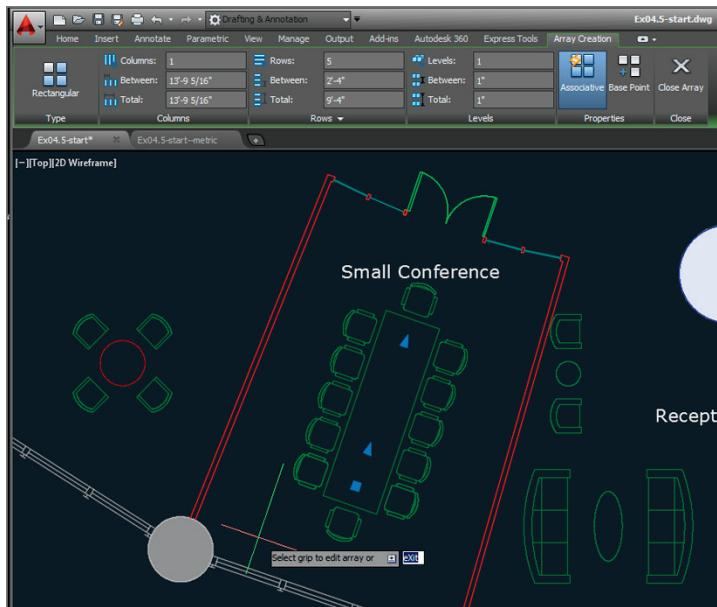

FIGURE 4.19 Creating a rectangular array by changing parameters on the ribbon
3. Change Columns to 1 and Rows to 5 on the temporary Array Creation tab that appears on the ribbon. Type **2'4 (72** for metric) in the Between text box in the Rows panel and press the Tab key (see Figure 4.19).